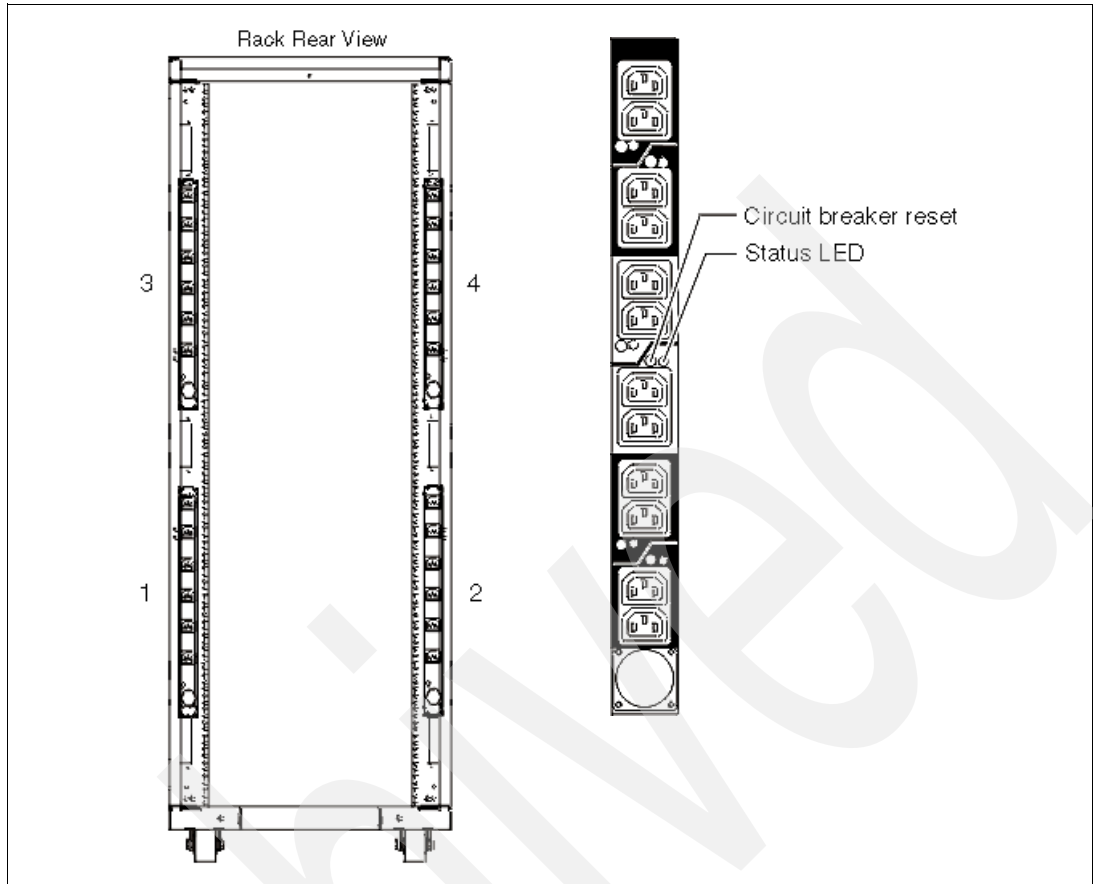

Figure 1-4 PDU placement and PDU view
- ▶ Up to four power distribution units (PDUs) can be mounted in the PDU bays (Figure 1-4 on page 28), but others can fit inside the rack. See 1.13.7, “The ac power distribution unit and rack content” on page 27.
Four PDUs can be mounted vertically in the back of the T00 and T42 racks. See Figure 1-4 on page 28 for the placement of the four vertically mounted PDUs. In the rear of the rack, two additional PDUs can be installed horizontally in the T00 rack and three in the T42 rack. The four vertical mounting locations will be filled first in the T00 and T42 racks. Mounting PDUs horizontally consumes 1U per PDU and reduces the space available for other racked components. When mounting PDUs horizontally, it is best to use fillers in the EIA units occupied by these PDUs to facilitate proper air-flow and ventilation in the rack.